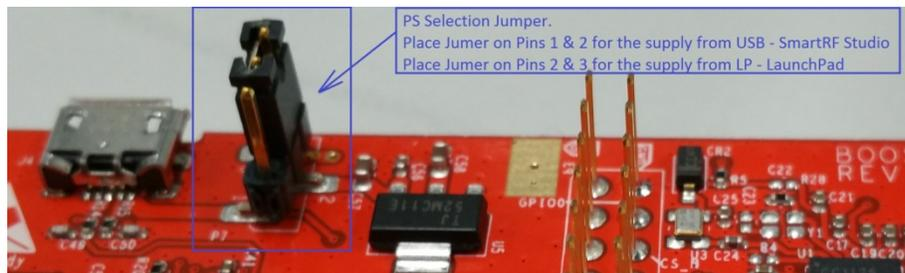

Figure 7. PS Jumper Location for SmartRFStudio Application
2. Power Supply Selection: Place the Jumper in between P7-1 to P7-2 to select the USB supply as the power source for the BoosterPack. The location of P7 with Jumper position is shown in Figure 7.